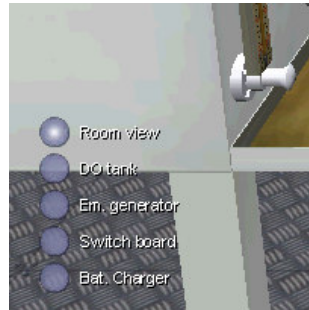

Fig. 3. Zoom Menu
1. Selection of system's views (Room view, DO tank, emergency generator, switchboard and battery charger). This items are available from menu (fig.3).